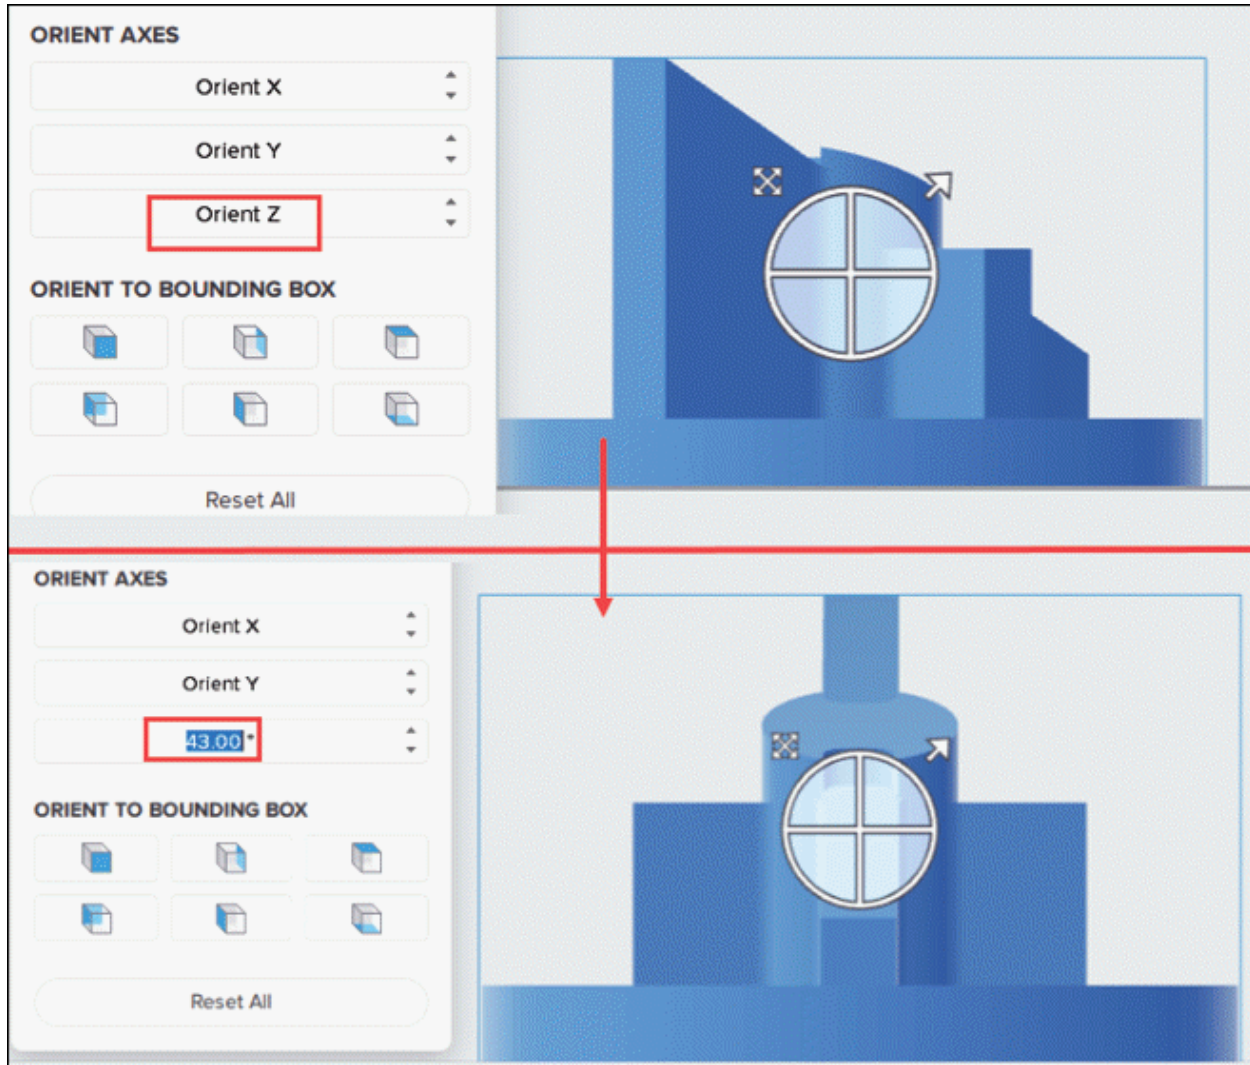

Figure-49. Tweaking the orientation of model
- You can use the spinners in **ORIENT AXES** area of the dialog box to define orientation angles for model. (These options are generally used to tweak the orientation; refer to Figure-49. You can also use handles in Manipulators to tweak the orientation.)